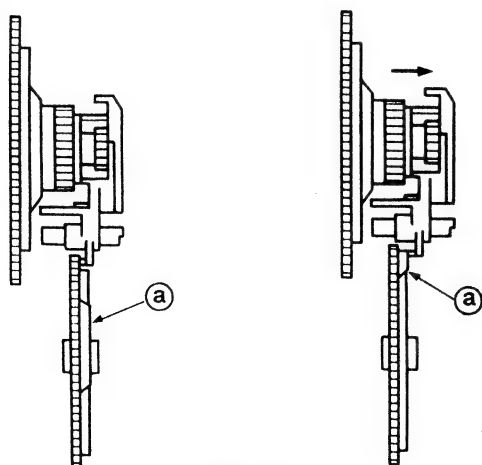

Fig. 16
4. The clutch assembly is moved forward by projection a of the cam gear. (Fig. 16)